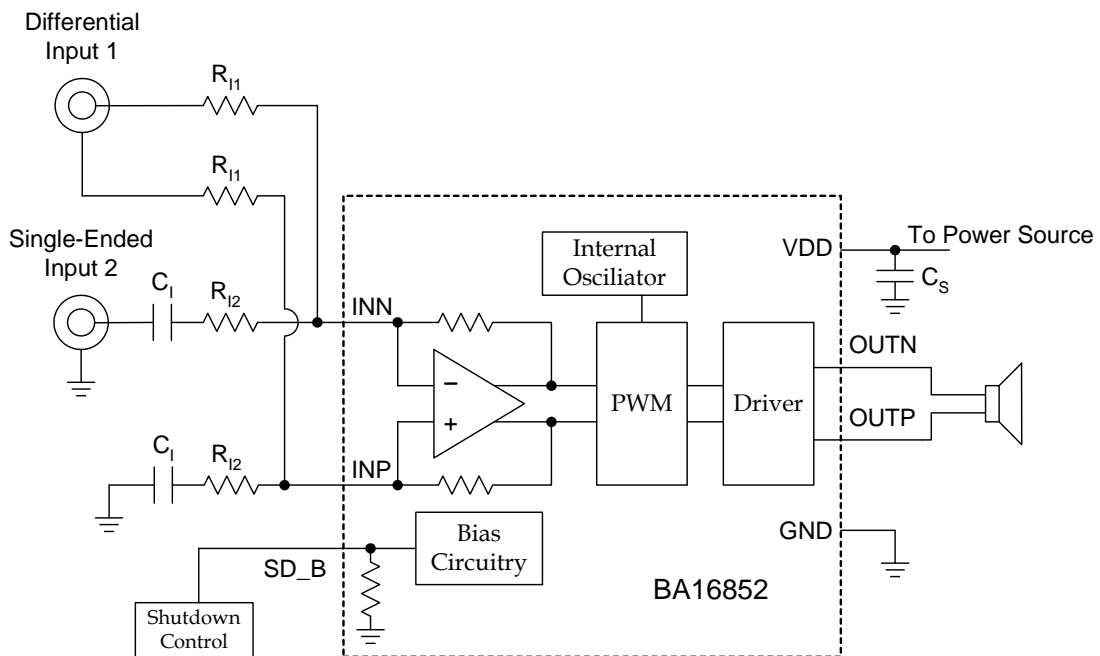

Figure 32. Dual Input with a Single-Ended Input and a Differential Input Configuration
A typical application with one single-ended source and one differential source shows in Figure 32. Ground noise can couple in through INP terminal with this method. It is better to use dual differential inputs. The cut-off frequency of the single-ended input is set by  $C_1$  shows in Equation (13). To assure that each input is balanced, the single-ended input must be driven by a low-impedance source even if the input is not in use.